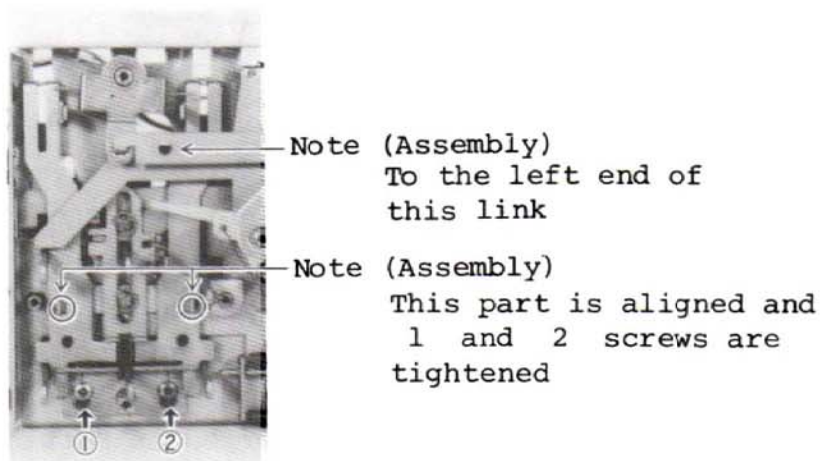

Fig. 9
- g. Remove the screws (2.6 x 0.45 x 5) from ① to ② shown in Fig. 9.